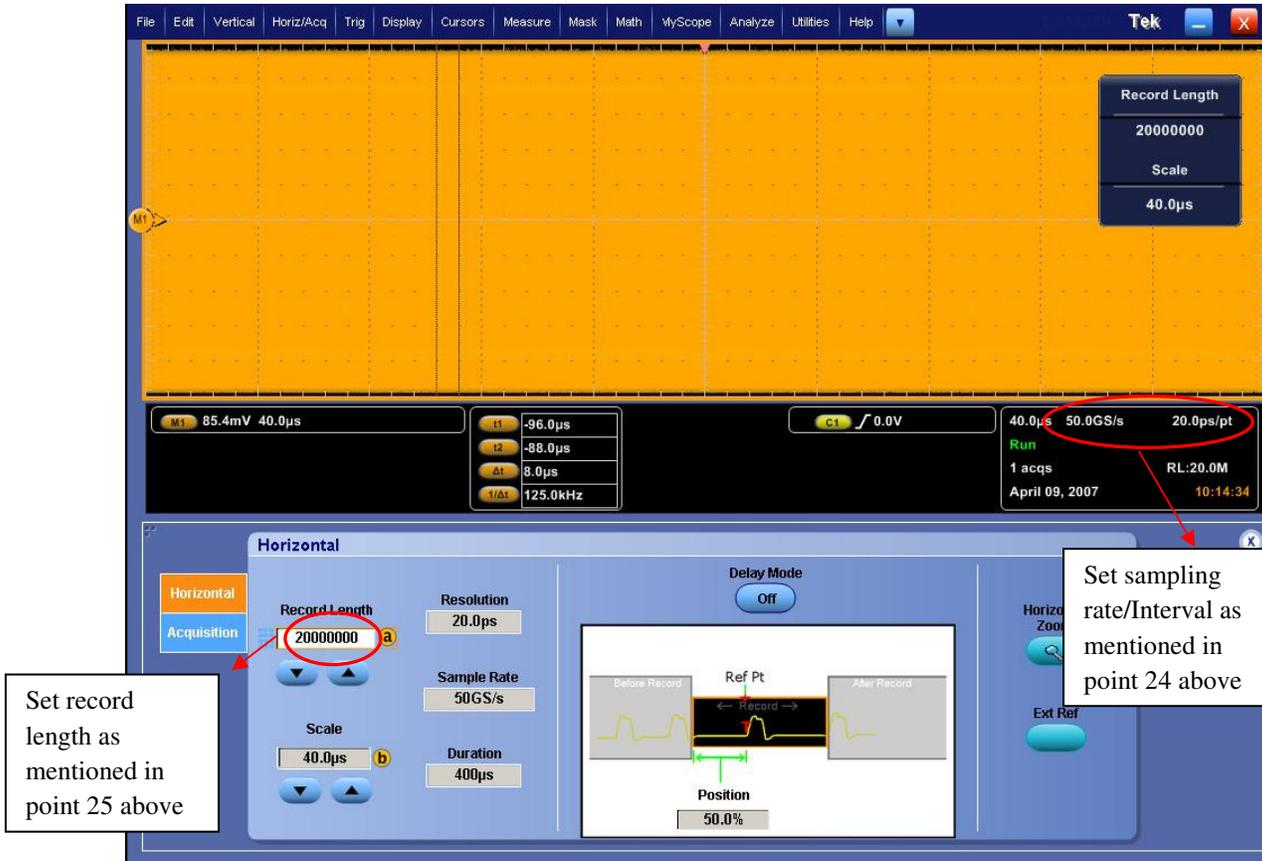

Figure 14. Scope settings for waveform capture
6. Make sure that the position is zero for Math1 function as shown in Figure 14 and Figure 15.